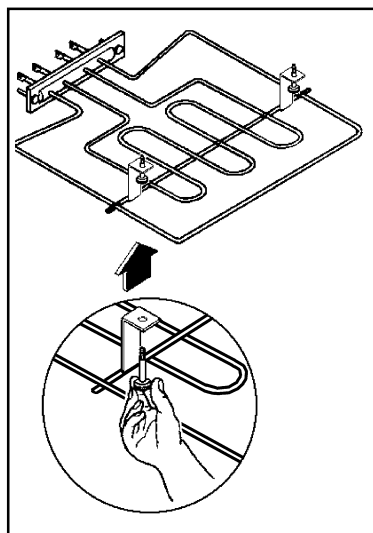

Fig. 11
1. Undo the screws which hold the grill in place (see fig.11). When doing this operation for the first time, we recommend using a screwdriver.